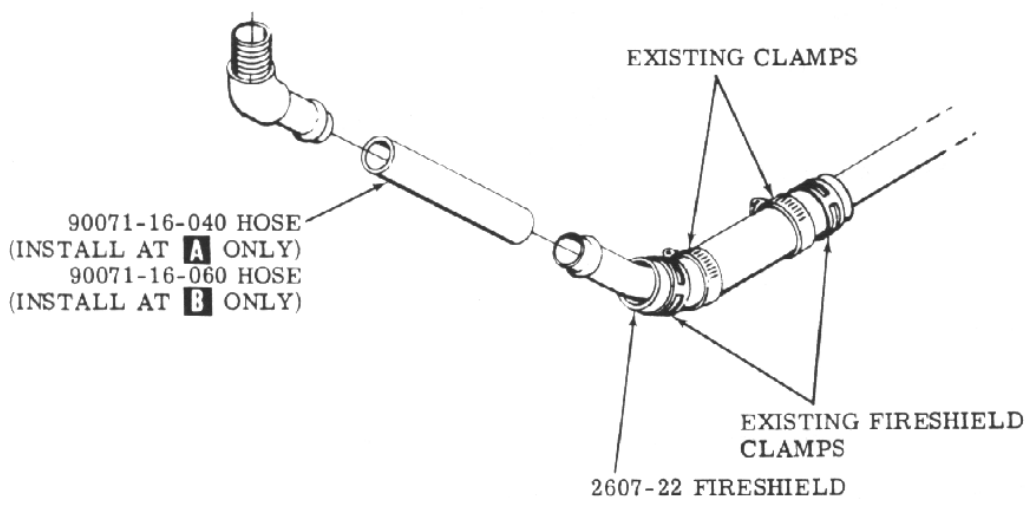

Figure 1.
- 3 Remove and discard existing hose and fireshield (4 places) (see Figure 1).
- 5 Connect existing oil supply tubes to new hoses, slide fireshields in place over hoses and tighten fireshield and hose clamps (see Figure 1).